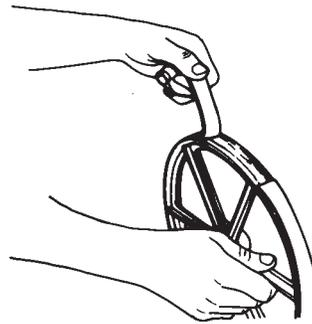

Fig. 7
5. Pull the old tire from the wheel. (See Figure 7.)